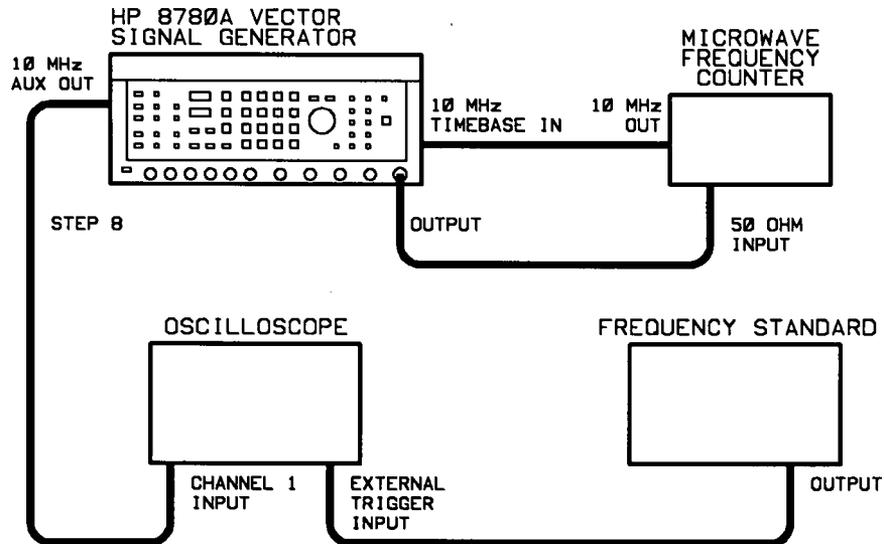

Figure 4-1. Frequency Test Setup
1. Connect the equipment as shown in Figure 4-1. The frequency counter 10 MHz reference out is connected in place of the Generator's 10 MHz internal reference.